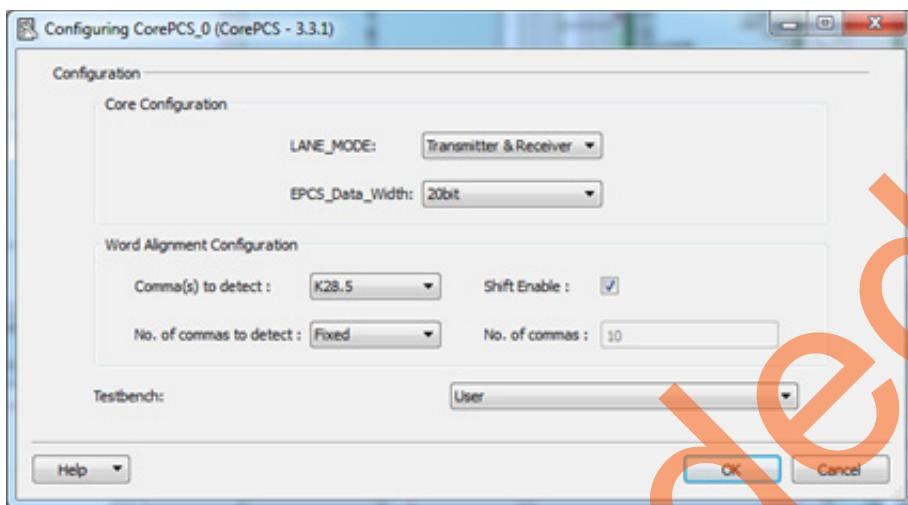

Figure 32 • CorePCS Configurator Settings
4. In the **Peripherals** tab, select the **CorePCS** module and drag-and-drop onto the `EPCS_Demo_top` SmartDesign canvas. Double-click the **CorePCS\_0** module and set the parameters, as shown in Figure 32.